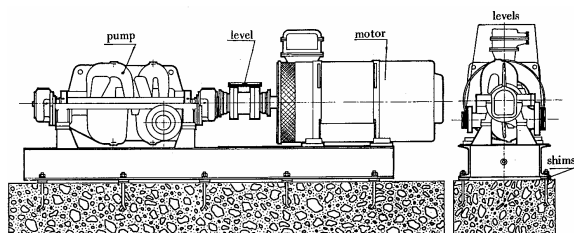

Figure 4.1 – Leveling and metal wedges location -
- Level the pump units as follow (see also fig. 4.1):